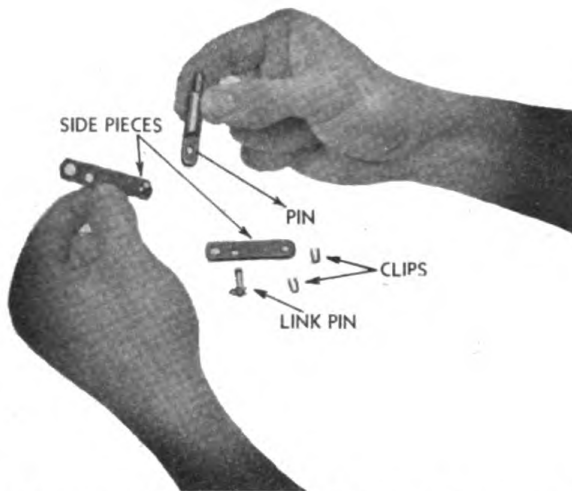

Figure 271. Assembling Pin and Side Pieces of Link Assembly.
1. Assemble the two side pieces making up the linkage using the link pin and clips. See Figure 271.